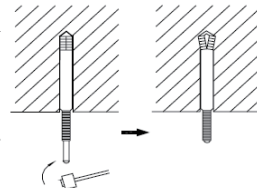

Fig.8
- (3). Insert the anchor bolts into the drilled holes, and drive the pins completely into the anchor bolts with a hammer. (Fig.8)